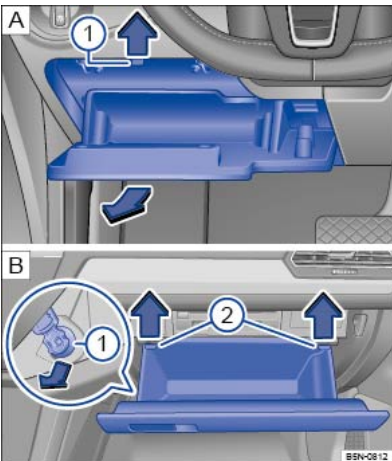

Fig. 208 Dash panel on the driver side: fuse box cover.
- Open the stowage compartment on the driver side ⇒ Fig. 208 .
- Push the retaining lugs $\Rightarrow$ Fig. 208 ① upwards in the direction of the arrow whilst opening the stowage compartment until the fuse carrier can be accessed.